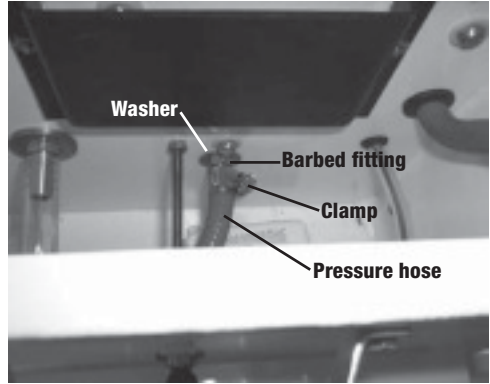

Figure 10: Removing solenoid
4. Loosen clamp and wiggle hose of barbed fitting (fig. 10). Use 9/16" wrench or socket to remove barbed fitting from solenoid.